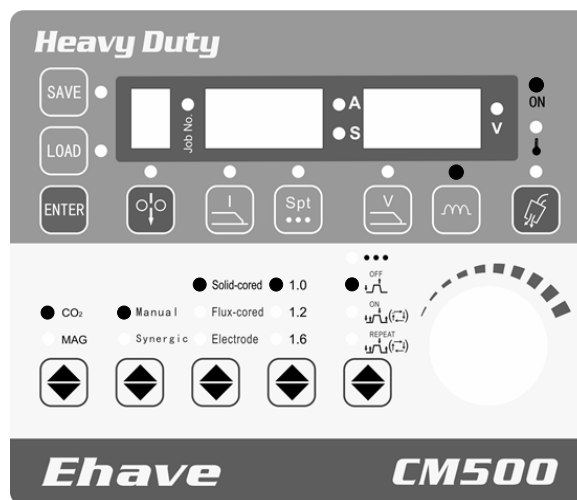

Figure 3-16 Setting arc dynamic
3. Figure 3-16 shows the control panel where the parameters have been set.